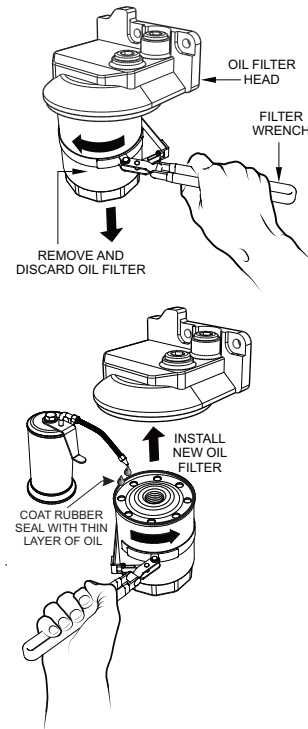

Figure 73. Engine Oil Filter Removal
1. Using an oil filter wrench (Figure 73), remove the engine oil filter.
3. Coat the rubber seal (gasket) surface of the new oil filter (Figure 73) with clean 15W-40 engine oil.